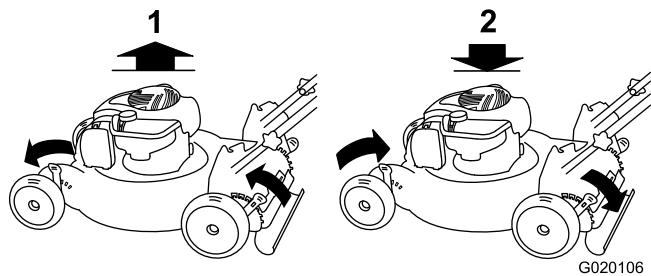

Figure 9
**Note:** To raise or lower the machine, move the cutting-height levers as shown in Figure 9.